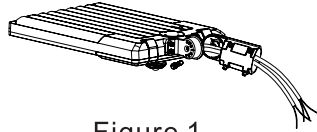

Figure 1
Step 1: Remove the bracket mounting screws on the fixture and run the wires through the bracket. (Fig. 1)